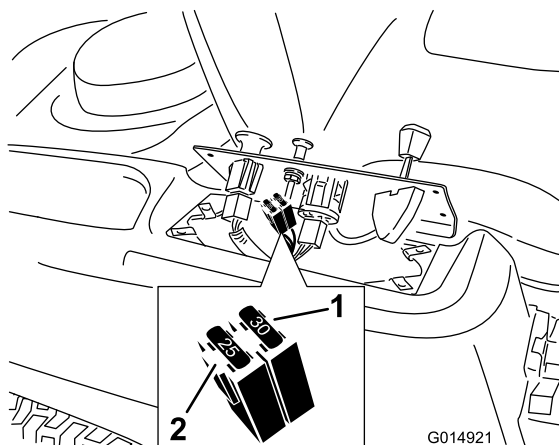

Figure 44
2. Lift the control pane up to access the main wire harness and fuse block (Figure 44).
3. To replace a fuse, pull out the fuse to remove it (Figure 44).